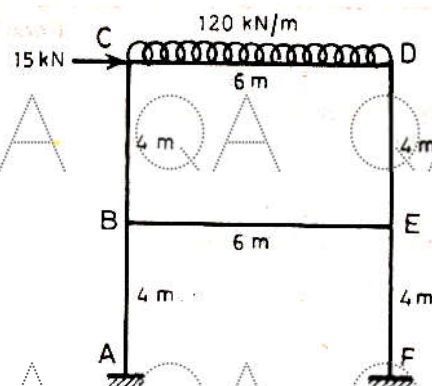

Figure 1
3. Analyze the portal frame shown in Figure 1 by Moment Distribution method. The end A is fixed and D is hinged. The joints B and C are rigid. Draw the B.M.D and sketch the deflected shape of the frame. [10]